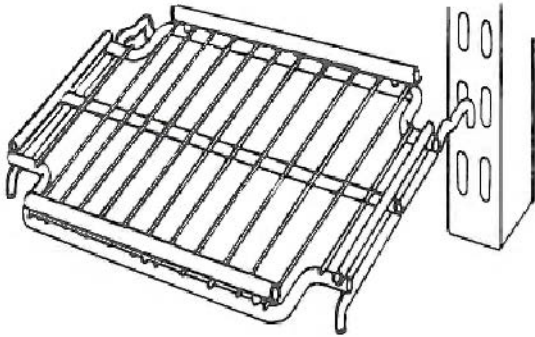
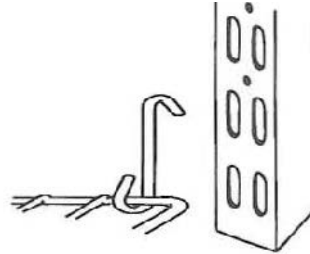

Figure 12
Figure 13
1. Refer to Figure 12 and Figure 13 for rear.